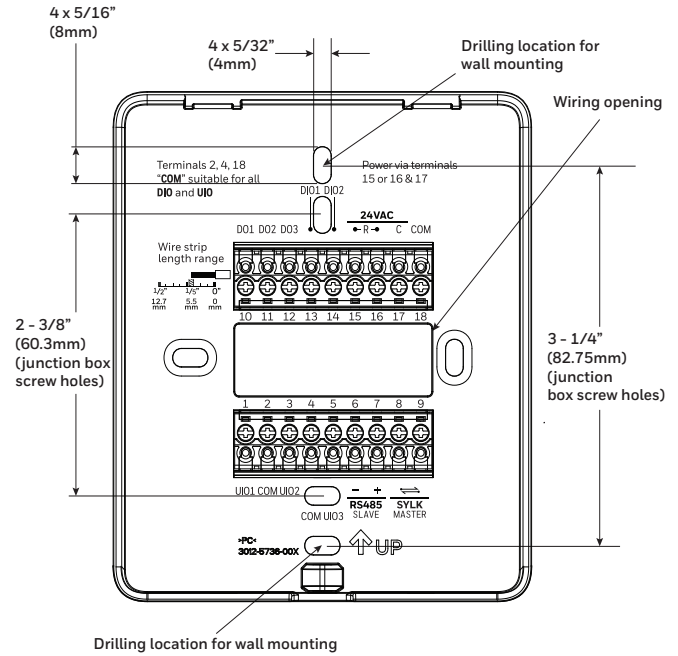

Fig. 5. Wallplate drilling locations
3. Pull the wires through the wiring opening of the wallplate and position the wallplate along the junction box to align the mounting holes. For junction box screw holes, refer to Fig. 5.